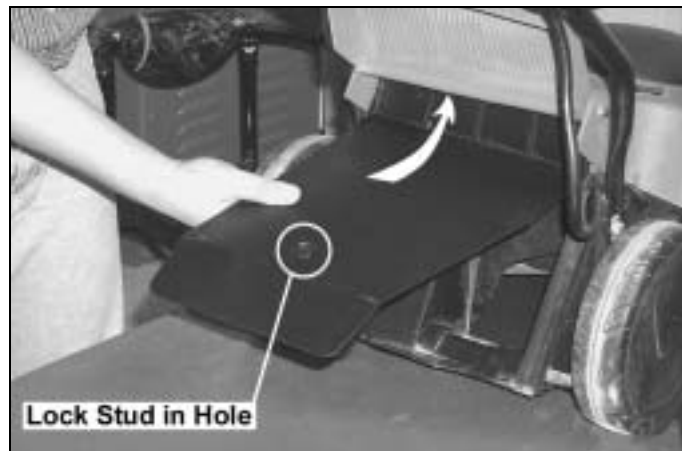

Figure 19
2. Position the black discharge flap with the ribbed bend facing up, flush against the rear of the discharge guard (*Figure 19*).